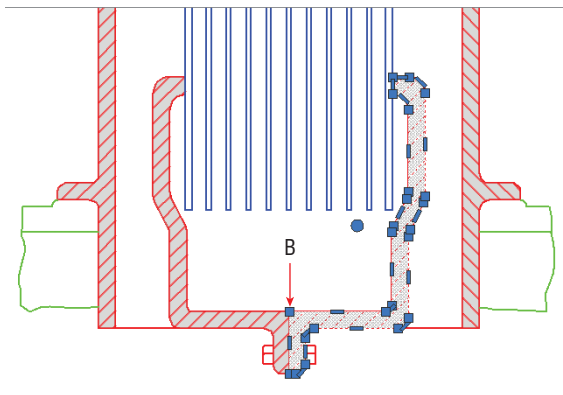
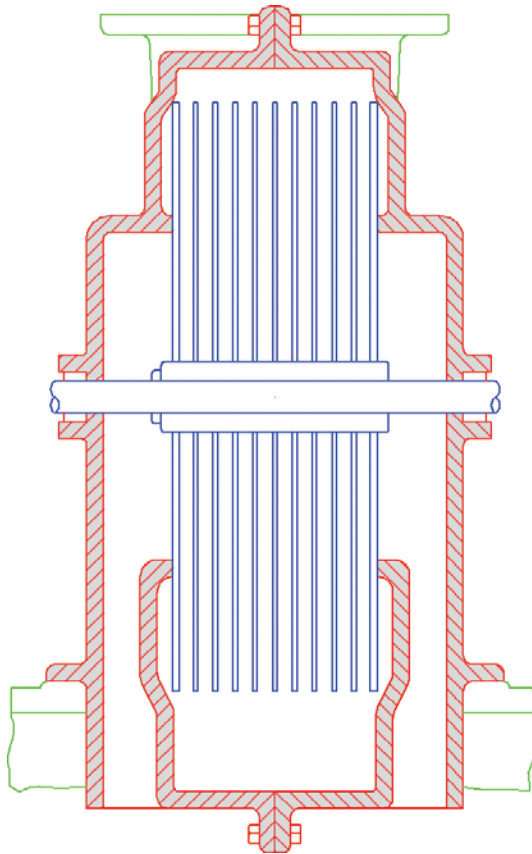

FIGURE 8.16 Setting the origin of the inner-right pattern
FIGURE 8.17 Symmetrical crosshatching highlights separate metal castings.
9. Click the Set Origin button, and click point B in Figure 8.16. Press Esc to deselect.
10. Select the inner pattern on the left. Click the Set Origin button, and click point B in Figure 8.16. Press Esc to deselect. The inner patterns on the left and right both meet symmetrically at point B. Figure 8.17 shows the result.